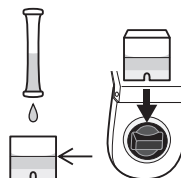

Fig.7
6. Return the sample into the cell gently, and insert the cell into the cell box. (Fig.7)